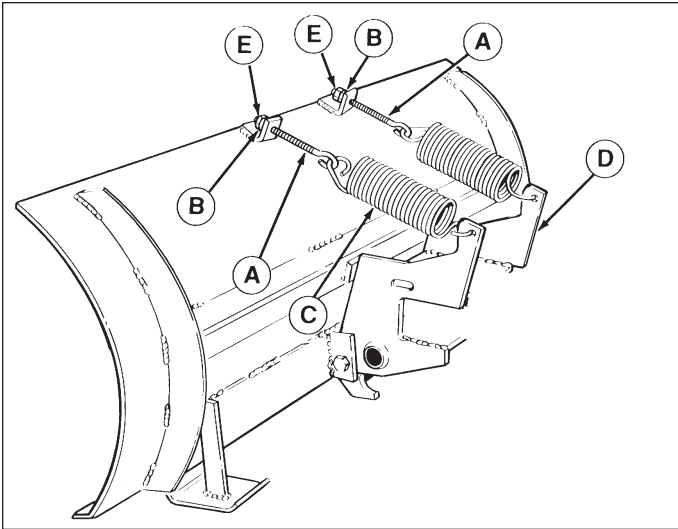

Figure 8. Tension Springs
1. See Figure 8. Insert threaded end of eyebolt (A) through lug on blade, and screw on 5/16 nut (B) just far enough so that it is flush with the end of the eyebolt.
2. See Figure 8. Hook the springs (C) into the pivot frame (D). Using a pliers, stretch the springs to hook the opposite ends to the eyebolts (A).
3. See Figure 8. Tighten the nut (B) on each eyebolt enough to expose about 3/4" (19 mm) of thread.
4. See Figure 8. Holding the first nut (B) with a wrench, add a second nut (E) to each eyebolt, and tighten securely against the first nut to act as a jam nut.